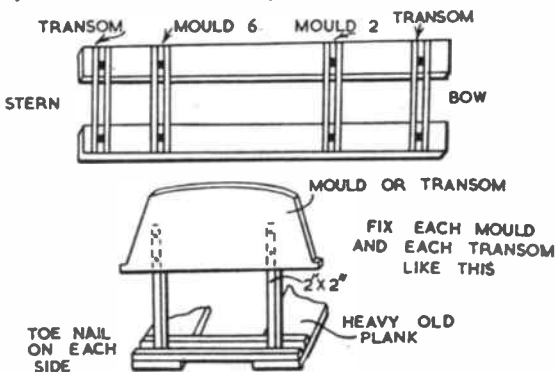

Fig. 2—Base for moulds
Commence by cutting out the ends (5) from $\frac{3}{4}$ in. plywood using a heavy grade fretsaw. The end shape is shown in the squared diagram in Fig. 2. Enlarge the squares to 3 in. and draw in the shape one square at a time. Draw half only, then trace and transfer to the other side. Remember to cut out the slots for the rails 2.
Fig. 2 on left shows end shapes. Enlarge to 3 in. squares
If you do not have a wooden floor on which to anchor the moulds, make a frame of rough lumber as shown in Fig. 2. The main idea is to have the moulds standing as rigid as possible, for it is on these you will be building and shaping your little craft, upside-down.
Cut the moulds and the transoms to shape as in the detailed drawings. If you have a wooden floor you can use 'A' frames fastened to the floor if not, use a strong horizontal frame that will sit firmly on the ground or concrete floor. I use a heavy old base as in Fig. 2.